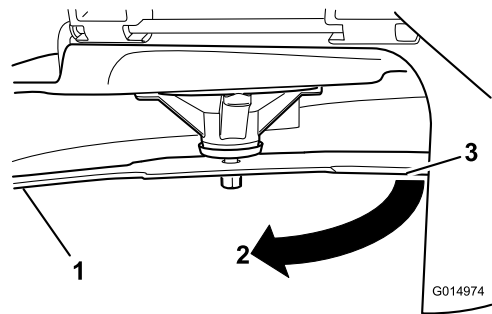

Figure 79
3. Measured distance between blade and the surface (A)
4. Rotate the same blade 180 degrees so that the opposing cutting edge is now in the same position (Figure 79).